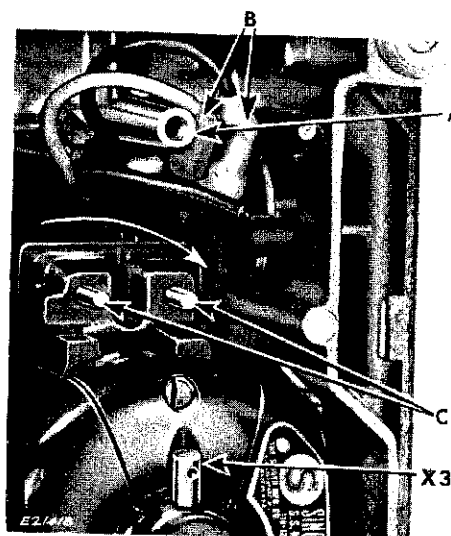

Fig. 1. Removing and Replacing Motor
3. Remove motor hold down plate by removing screw from A, Fig. 1
4. Remove two electrical sleeve connections B, Fig. 1 from motor terminals C, Fig. 1
NOTE: Fig. 1 shows grease tube X3 as it appears on motor of machines now leaving the factory. In the past, some machines have been sent out with motor grease tube located diametrically opposite the one illustrated in Fig. 1.
1. Slide motor into position, turning hand wheel slightly to ensure proper gear mesh. Be sure motor is properly positioned by pushing motor clockwise until motor butts against casting as shown by curved arrow in Fig. 1.
2. Fit electrical sleeve connections B, Fig. 1 over terminals C, Fig. 1